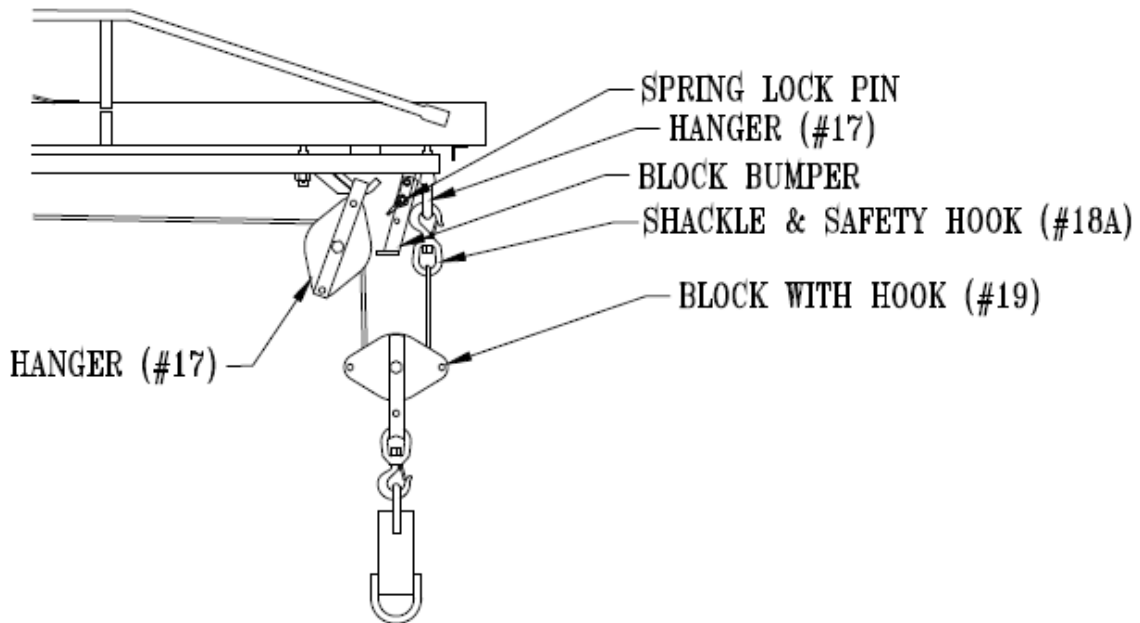

Figure 4
- c. Refer to Figure 4. For reeving with the two parts of a line, reeve the cable through block #13, then through block #19. Fasten the shackle and safety hook to the cable and attach safety hook to hanger #17. **Ensure the shackle and hook have a rated capacity of at least 1000 lbs and are in good condition**